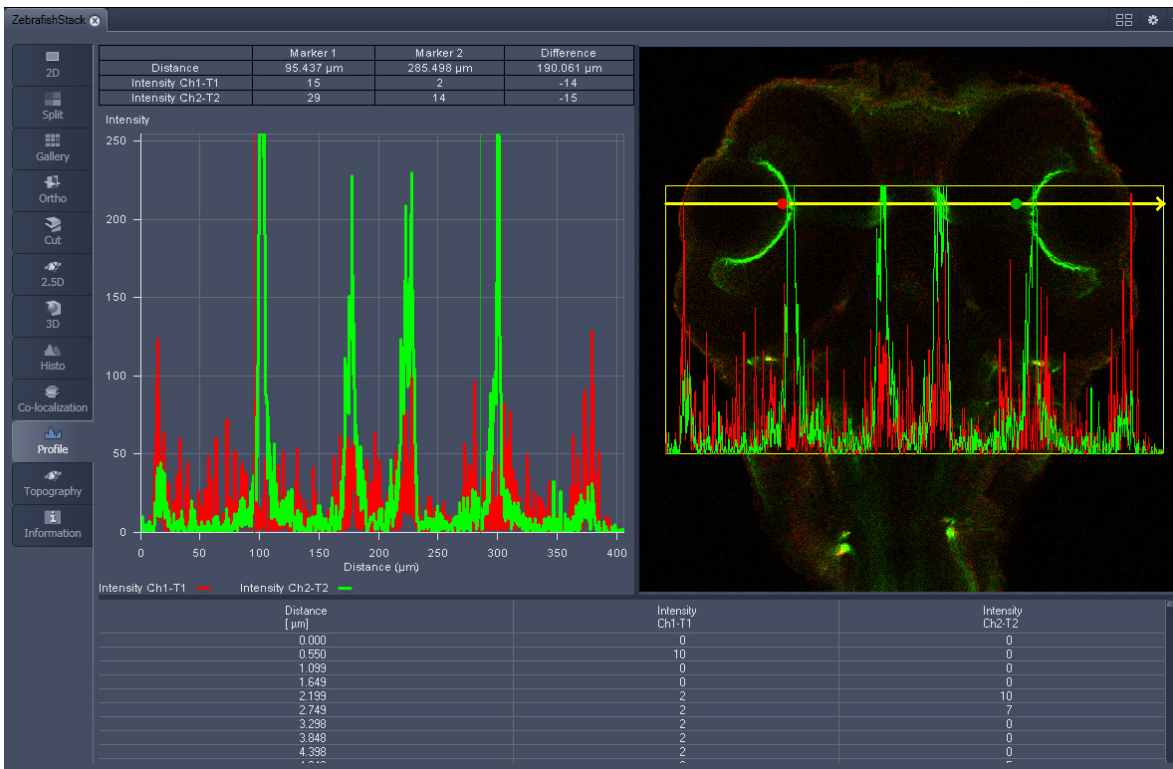

Fig. 236 Image Display - Profile View, Profile displayed in Image
- Tick the **Profile in Image Display** block to see an intensity graph superimposed on the image (see Fig. 236).